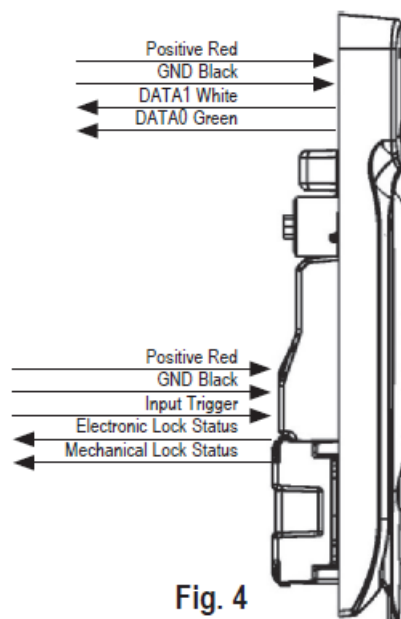

Fig. 4
7. Proceed to wiring. (See Figs. 4, 5 & 6)